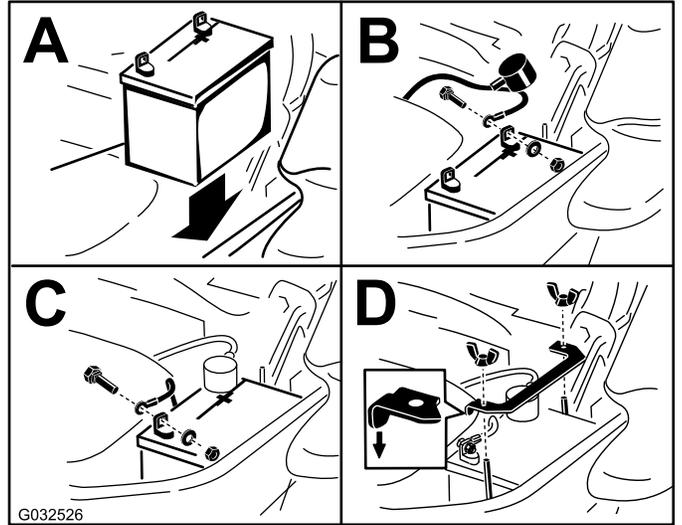

**Figure 66**
3. When the battery is fully charged, unplug the charger from the electrical outlet, then disconnect the charger leads from the battery posts (Figure 66).